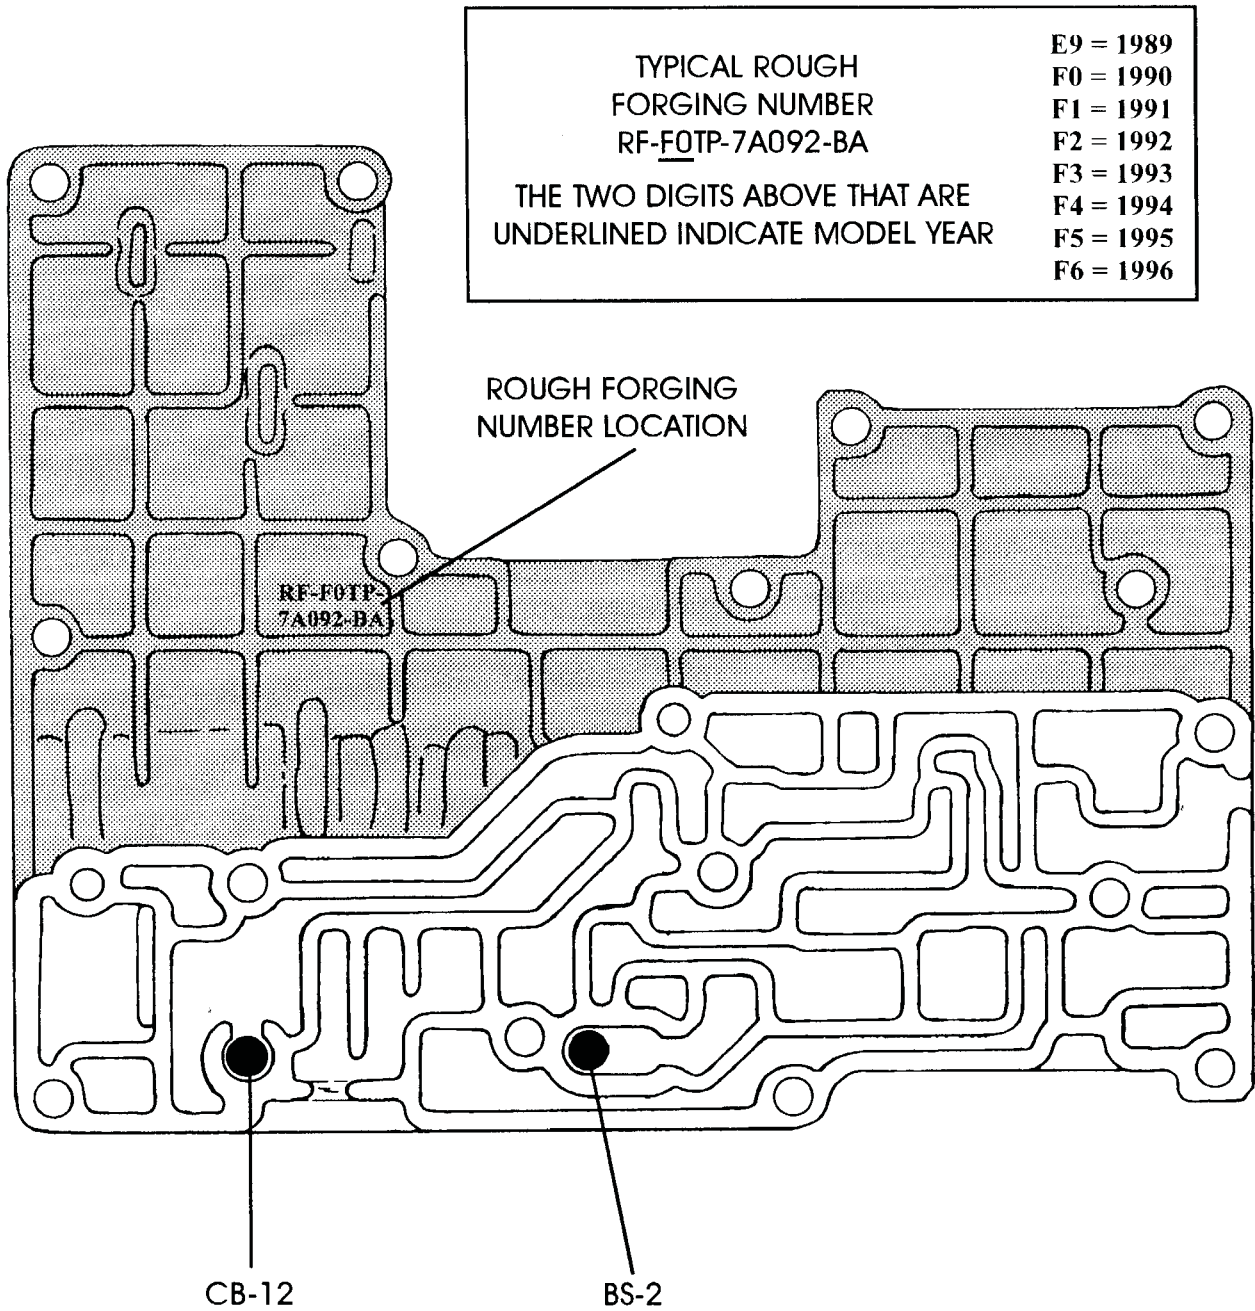
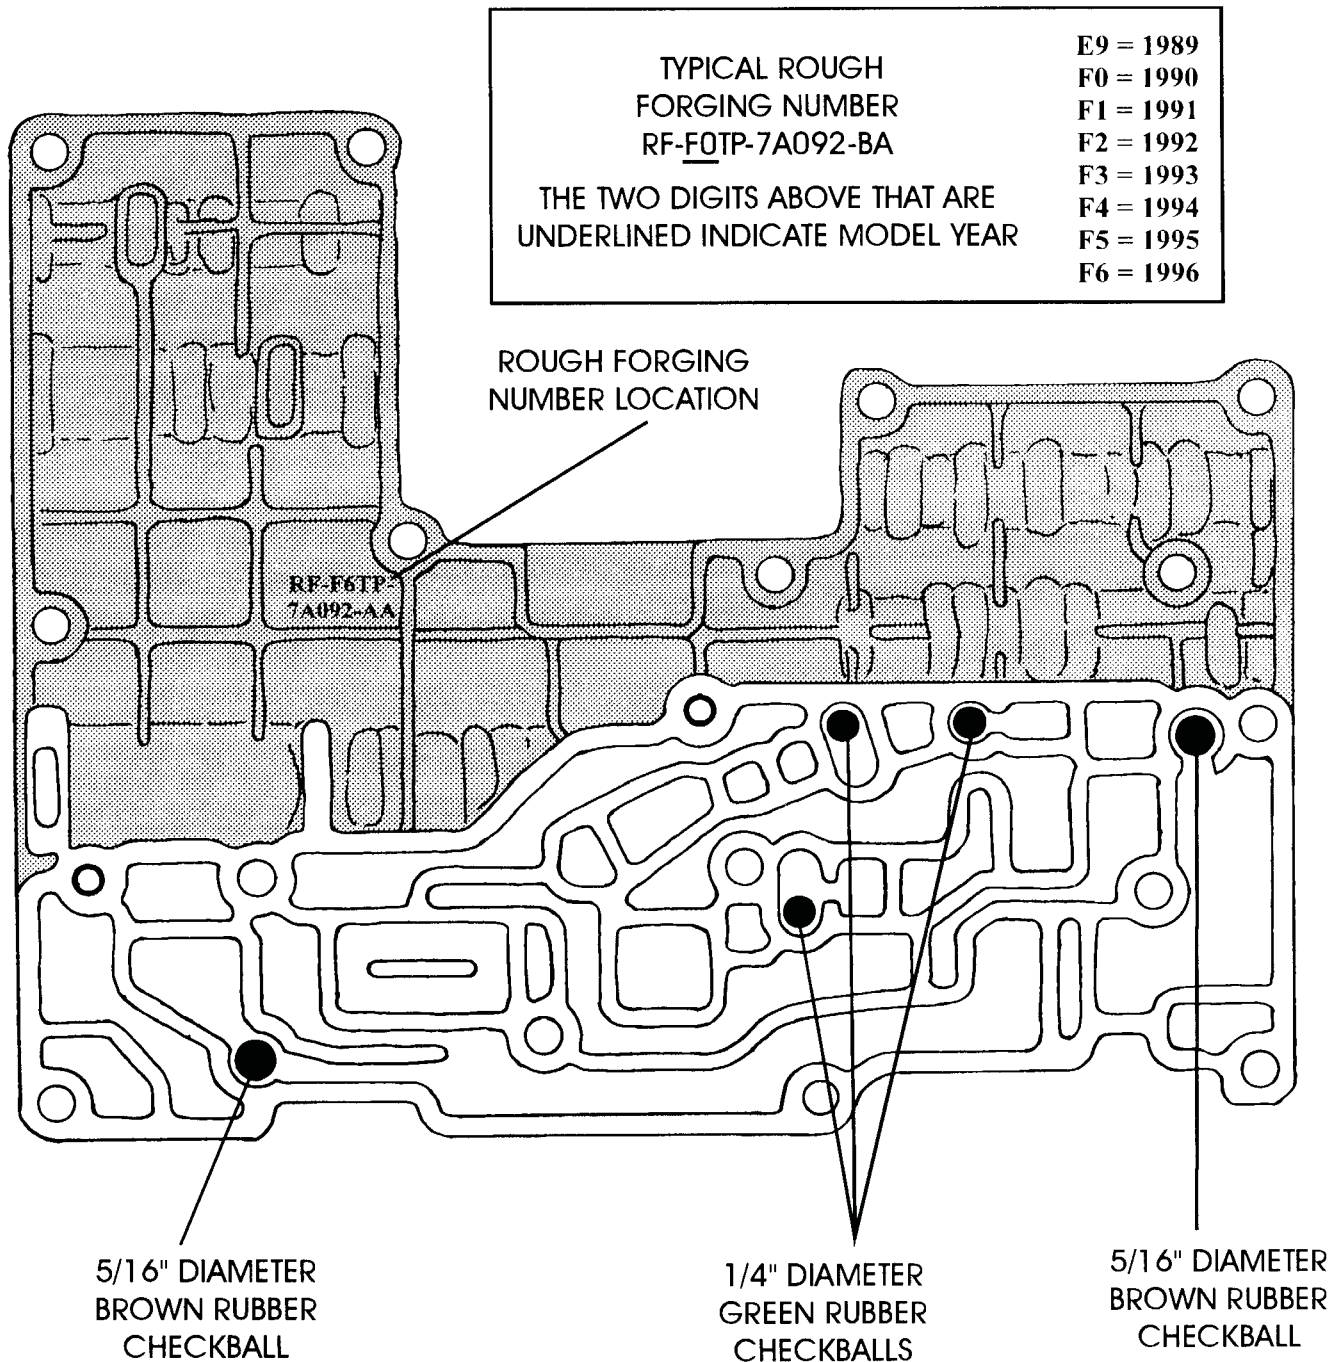

Figure 1
Figure 2
- (1) **VALVE BODY CHECKBALL LOCATIONS** - Have remained the same for 1989 thru 1995 model years, with **TWO** 5/16" rubber checkballs, and their locations are shown in Figure 1. Beginning in the 1996 model year there are **FIVE** checkballs in the main valve body and their locations are shown in Figure 2. Notice that there are two 5/16" rubber balls and three 1/4" rubber balls. The 1/4" rubber balls are green in color (See Figure 2).
- (2) **CASE CHECKBALL LOCATIONS** - Have now changed **three times** since the introduction in 1989, as listed below.
1989 Models Only - Can be identified by the differences in the worm track area at the 1-2 shift valve, as shown inside the circles in Figure 14. The best, and most accurate method to identify the valve body, is the rough forging number cast into the valve body in the location shown in Figures 1 and 2.
90-95 Models Only - Can be identified by the differences in the worm track area at the 1-2 shift valve, as shown inside the circles in Figure 14. The best, and most accurate method to identify the valve body, is the rough forging number cast into the valve body in the location shown in Figures 1 and 2.
1996-UP Models Only - Has a multitude of worm track location differences from the previous models, as shown in Figure 15. The best and most accurate method to identify the valve body, is the rough forging number cast into the valve body in location shown in Figures 1 and 2.
The 1996-Up models have a multitude of worm track location differences than the previous models, to accommodate the added valve body checkballs, as shown in Figure 17. The best, and most accurate method of identification is the rough forging number cast into the lower valve body using the formula in Figures 1 and 2.
NUMBER AS SHOWN IN FIGURES 1 AND 2***